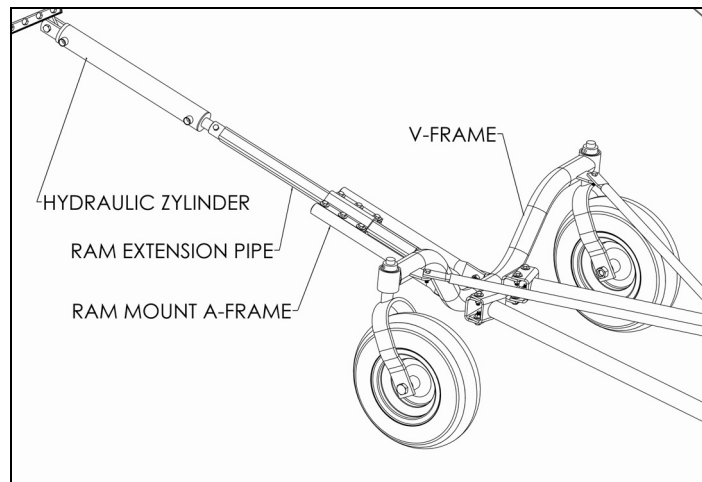

**Figure 3.13 Control Ring and Ram Mount Ring**
1. Bolt control ring and ram mount ring as two separate units using the provided tube half clamp onto auger (46' and 51') (Figure 3.13). Use eight 7/16" x 1" bolts and locknuts per clamp. Ensure that the ring is positioned so that the cylinder tab is straight down. For all other augers, the control ring and ram mount ring are mounted as one unit.